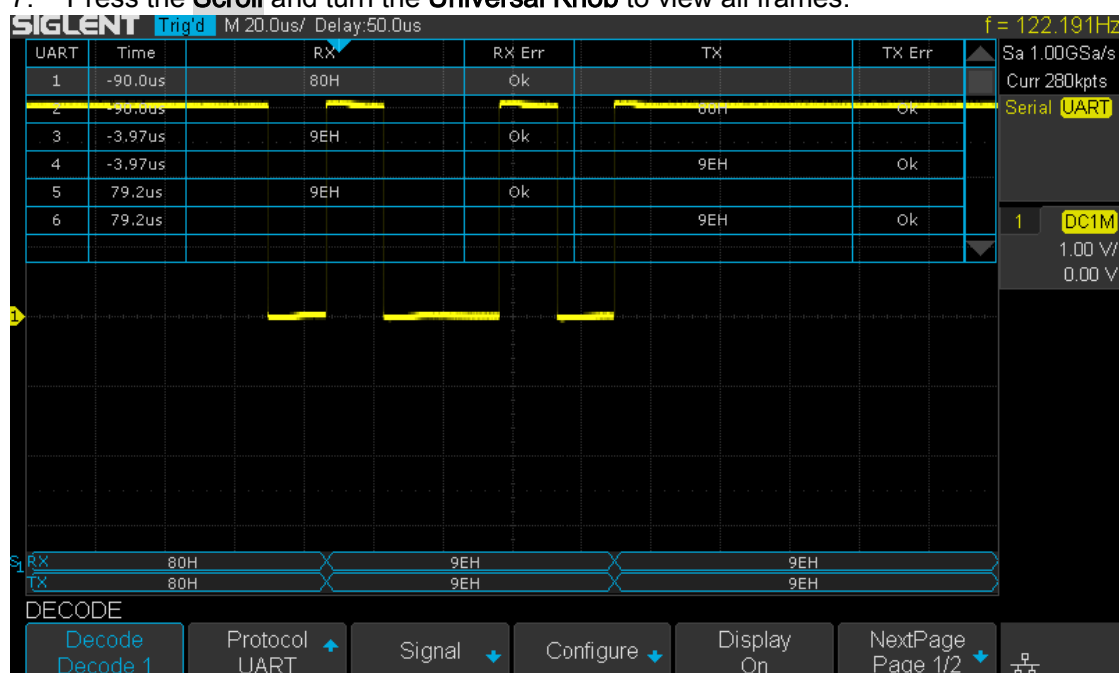

Figure 55 UART Decode
4. Press the **Signal** softkey to enter the **SIGNAL** menu as Figure 55 shows.